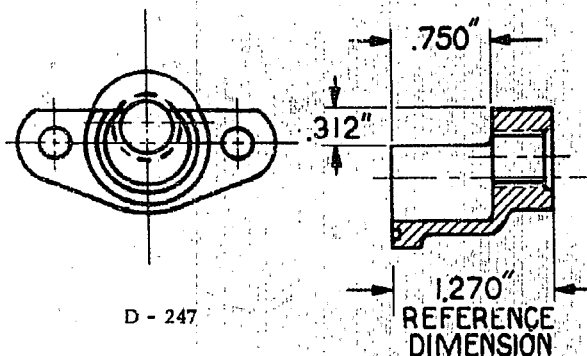

FIGURE 8 - REWORKED CP 7626
2.2 To obtain the APE 8V "PLE" dimension, a tool must be fabricated per Figures 8 and 9.
9-3	Control Rack Cap CP 7626 machined per Fig. 8 (Use 2 SC 1953 screws for mounting on pump)
2. Thread jam nut (9-2) on hex bolt (9-1) and install in reworked CP 7626 (9-3) (See Figure 8).